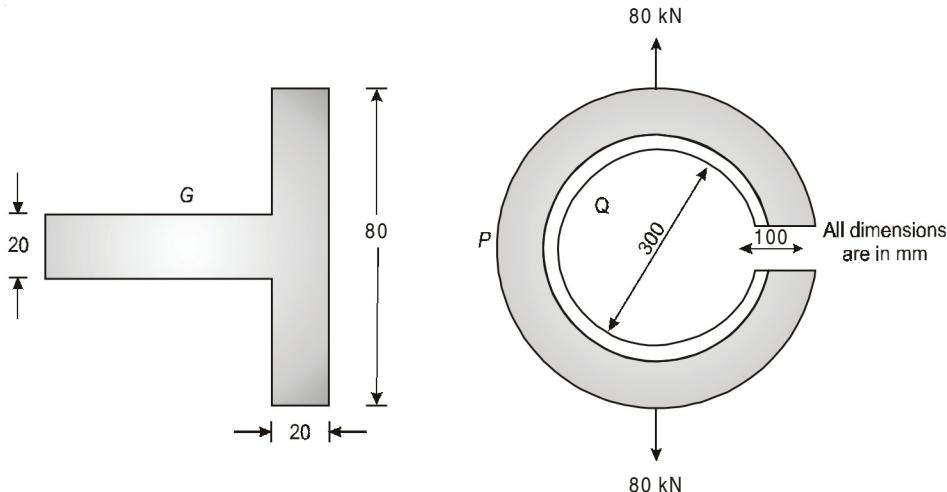

Fig. 11.24
10. An open ring has T section as shown in the Fig. 11.24. Determine the stress at points P and Q.